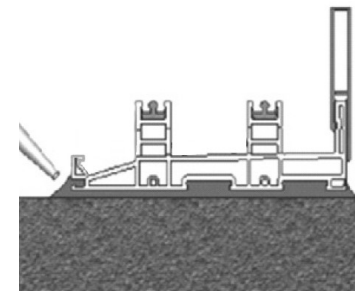

Figure 19
**10.** Verify the frame is still plumb in opening, then seal outside perimeter of the frame (including P-hook, if applicable) and all screws, including all seams and corners (Figure 19).